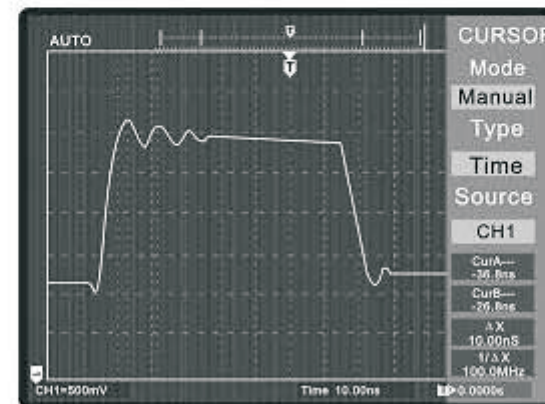

Figure 3-2
1. Press CURSOR key to see the **Cursor menu** → Press **Mode** to set **Manual** mode → Press **Type** to select **Time** measurement → Rotate CH1 POSITION knob to place cursor 1 on the first peak of the ring. Rotate CH2 POSITION knob to place cursor 2 on the second peak of the ring. You can see the time between cursors ($\square X$) and frequency ($1/\square X$) in the Cursor menu. Figure 3-2 shows the measured ring frequency is 100MHz.